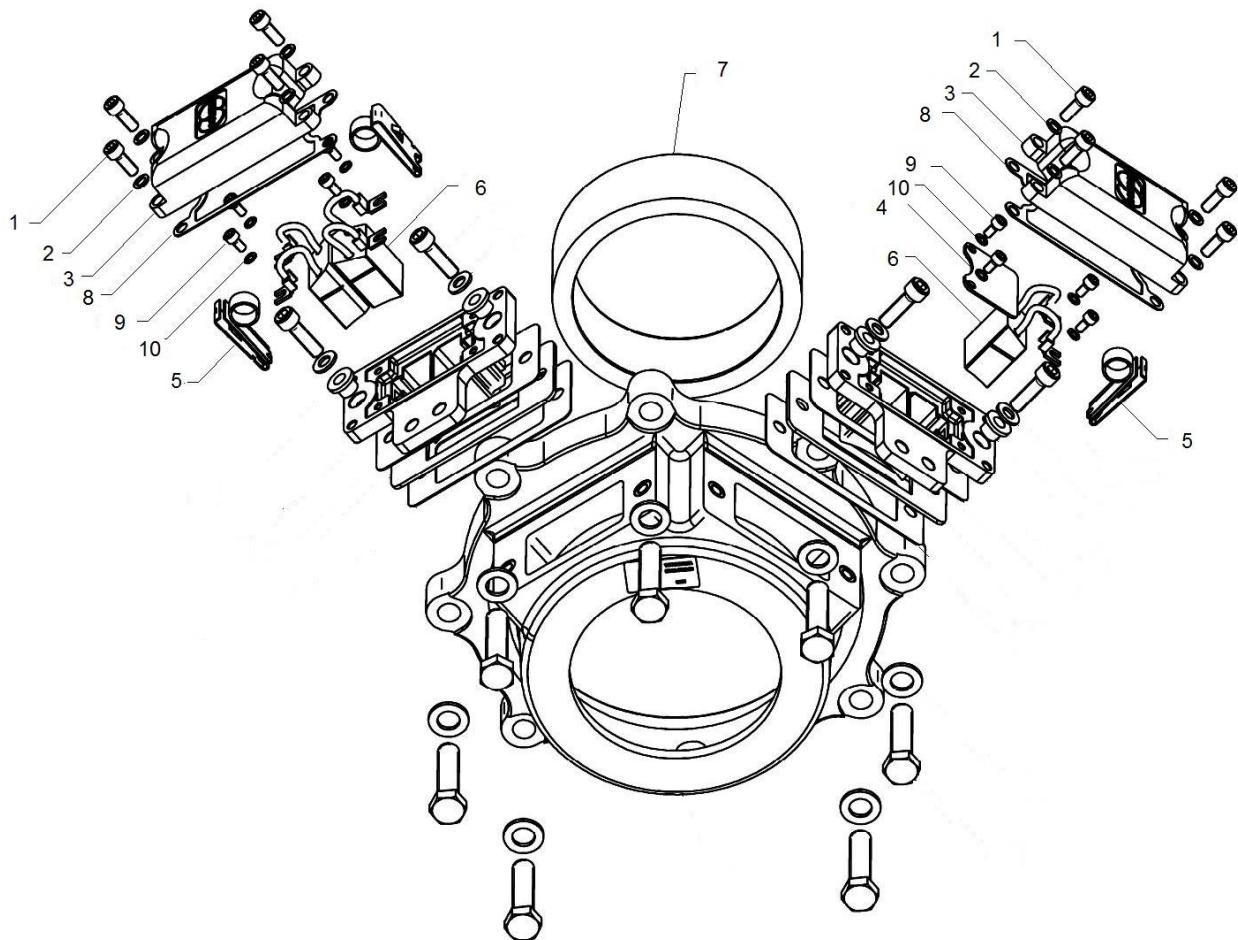

Figure 5-2: Motor Axle Ground Brush Components
2. See Figure 5-2. Unscrew and remove the socket head cap screws (1) with a 6 mm hex key. Remove all four screws.